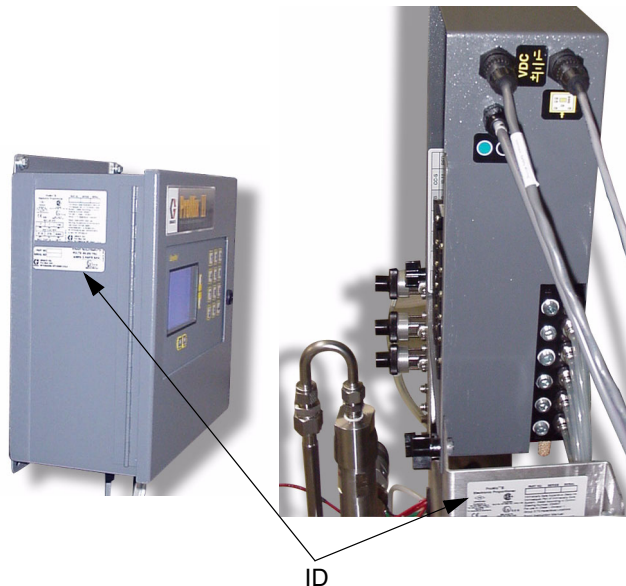

FIG. 6: EasyKey™ Display and Smart Fluid Panel
Do not install equipment approved only for non-hazardous location in a hazardous area. See the identification (ID) label (FIG. 6) on the EasyKey™ Display for the intrinsic safety rating for your model. Refer to **ProMix™ II Models**, page 3. Read warnings, page 6.